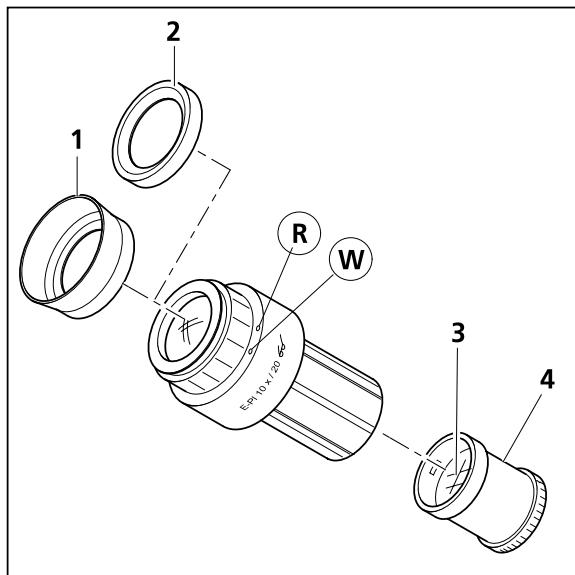

Fig. 3-5 Inserting an eyepiece graticule
The slight image shift caused by the added glass is reversed when the zero position is marked by the red dot (Fig. 3-5/R) and not the white one (Fig. 3-5/W).
The eyepiece graticules (Fig. 3-5/3) are glued into screw-in lens parts (Fig. 3-5/4) and can thus be changed easily. Complete lens parts with glued-in graticules can be ordered from Zeiss.
- Unscrew the lens part (Fig. 3-5/4) with the eyepiece graticule (Fig. 3-5/3) and remove it. Then insert the new lens part with the eyepiece graticule.
- Pull the rubber rings (Fig. 3-5/2) from the eyepieces, then insert the eye guards (Fig. 3-5/1) instead.